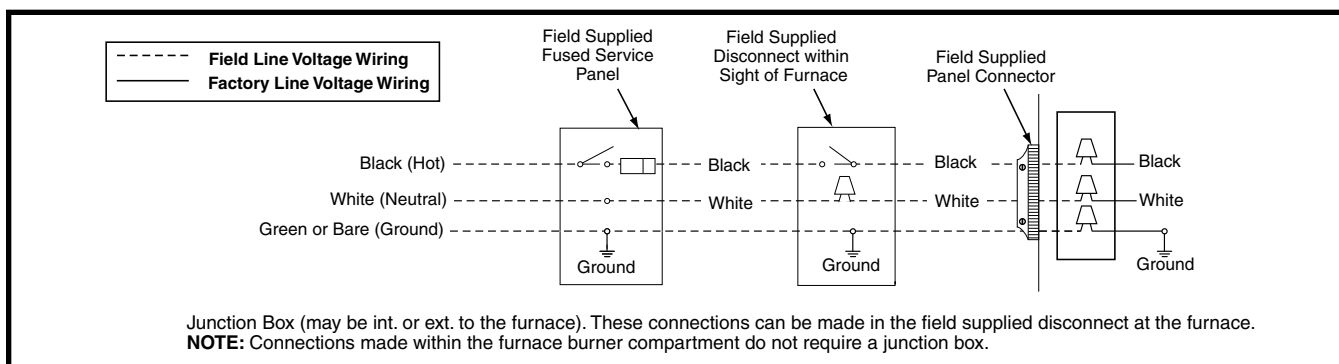

Figure 14. Line Voltage Field Wiring
- An electrical disconnect must be installed readily accessible from and located within sight of the furnace. See Figure 14 or the wiring diagram label inside of the control door. Any other wiring methods must be
- Proper line voltage polarity must be maintained in order for the control system to operate correctly. Verify the incoming neutral line is connected to the white wire and the incoming "hot" line is connected to the black wire. The furnace will not operate unless the polarity and ground are properly connected as shown in Figure 14, \(page 15\).
The operating sequences for the heating, cooling, and fan modes are described below. Refer to the field and furnace wiring diagrams: Figure 14, \(page 15\), Figure 19, \(page 24\), and Figure 20, \(page 25\).
10. Blower off timing of 60, 90, 120, & 180 seconds (depending on the movable jumper setting) begins when the thermostat is satisfied. See Figure 14 (page 16). The control will operate at the selected HEAT speed of 60 seconds, then change to FAN speed for the remaining off delay time. If the blower off delay jumper is not present, the fan should still operate for 120 seconds at the selected HEAT speed. The indoor blower motor is de-energized after a blower off delay as selected by the movable jumper.